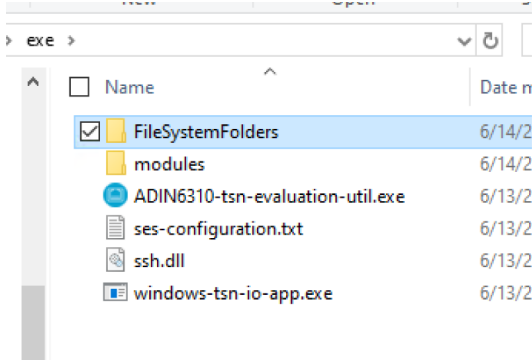

Figure 12. Contents of the exe Sub-Folder
- ▶ The **exe** folder contains the executable (GUI), configuration files, and the web server file system (see Figure 12).